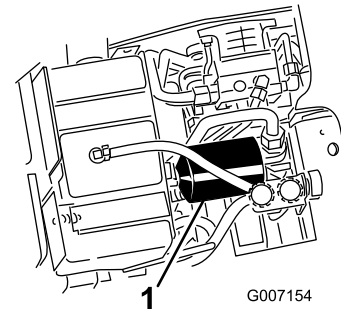

Figure 71
4. Place a drain pan under the filter (Figure 71).
5. Remove the old filter (Figure 71) and wipe the surface of the filter adapter gasket clean.
7. Install the replacement hydraulic filter onto the filter adapter (Figure 71). Tighten it clockwise until the rubber gasket contacts the filter adapter, then tighten the filter an additional 3/4 turn.